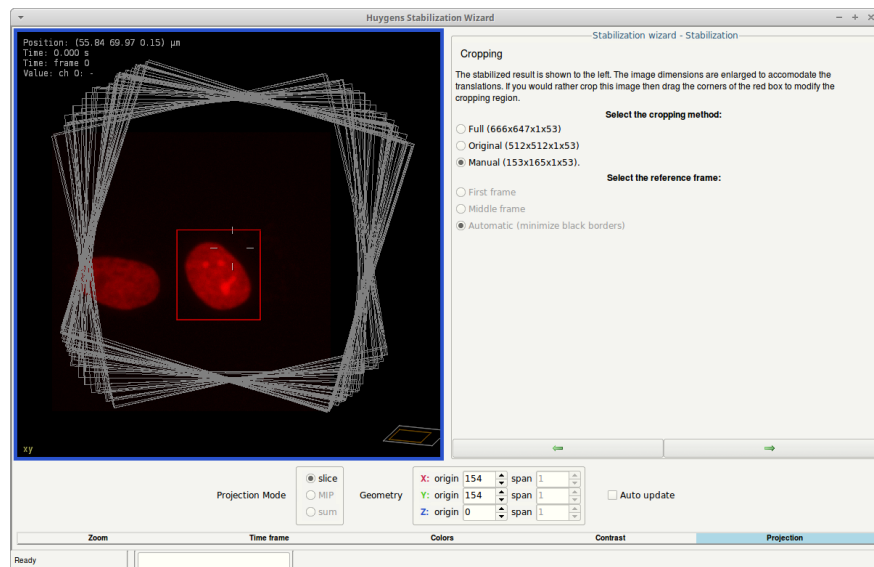

Figure 25.9: The stabilization result can be cropped manually to cut out the objects of interest. The original image borders are shown as grey rectangles.
Because extra space is required for the translated and rotated frames/slices, the stabilized result will be larger than the original image. The *Cropping* stage (See Figure 25.9) lets you determine how the result will be cropped. Depending on the stabilization method there can be up to four different methods:
- *Manual*: A cropping region can be set manually by dragging the red bounding boxes in the slicers. See Figure 25.9.